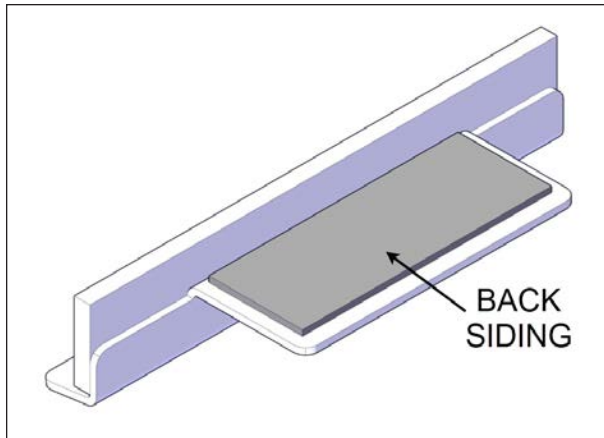

FIGURE 67: WIPER
2. Peel back the red siding of the double-sided tape of one wiper see Figure 67.